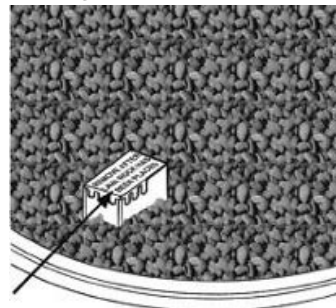

Figure 7
5. Remove the cardboard cover from the ignition well as shown in Figure 7.